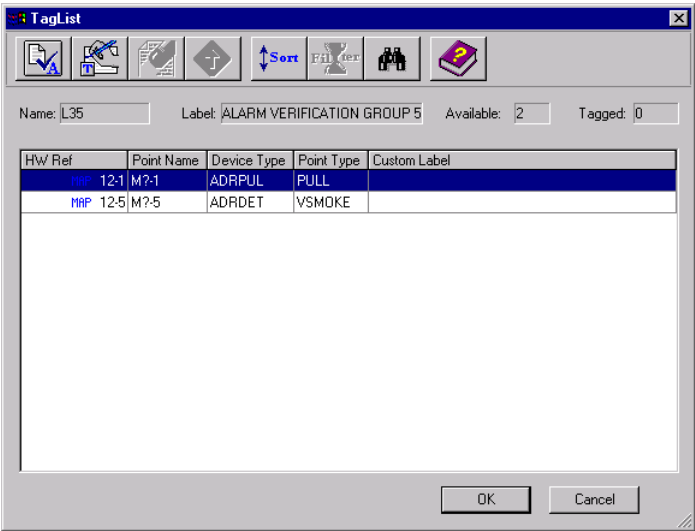

Figure 8-4. Sample Tag List for Alarm Verification Group
3. Click on the Alarm Verification group into which you want to move points. Right click and select **Tag List**. A screen similar to the one shown in Figure 8-4 appears.